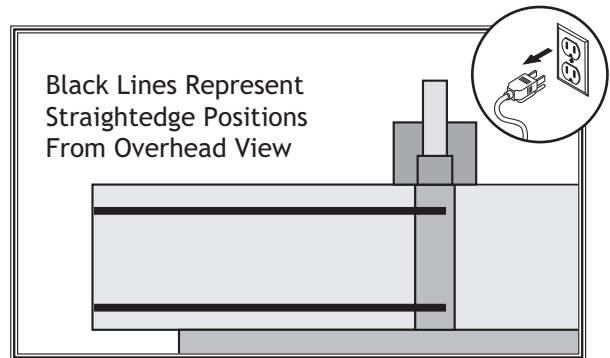

Figure 31. Checking knife height with a straightedge.
2. Loosen (2) button head cap screws securing cutterhead guard to jointer base, then remove cutterhead guard.
3. Using a straightedge on outfeed table, check height of each knife at positions shown in **Figure 31**.